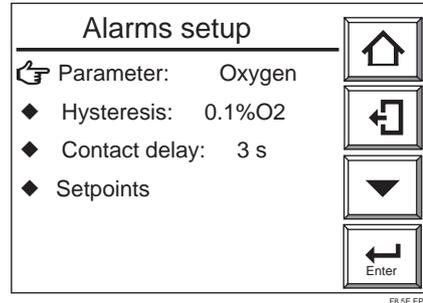

Figure 8.5 Alarms Setup Display
- (1) Press the Setup key in the basic panel display to display the Execution/Setup display.
- (2) Select Setup in the Execution/Setup display. The “Commissioning” (Setup) display then appears.
- (3) Select the Alarm setup in the “Commissioning” (Setup) display. The Alarms setup display shown in Figure 8.5 then appears.